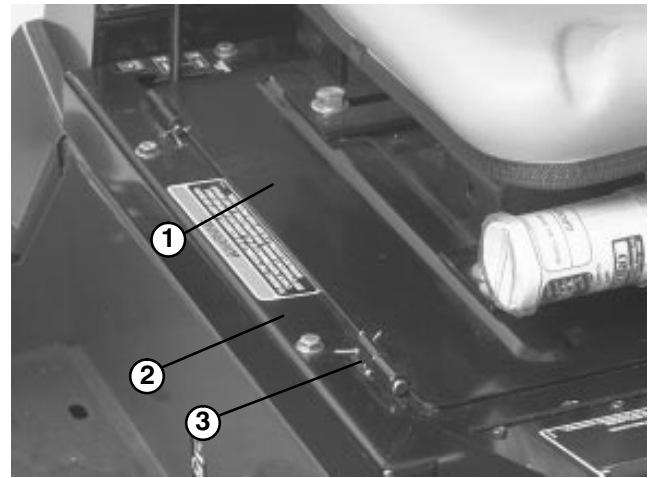

Figure 2
1. Position seat assembly onto seat frame aligning hinge tubes (Fig. 2).
2. Secure seat plate to seat frame with (2) clevis pins and 3/4 x 3/4" lg cotter pins (Fig. 2).